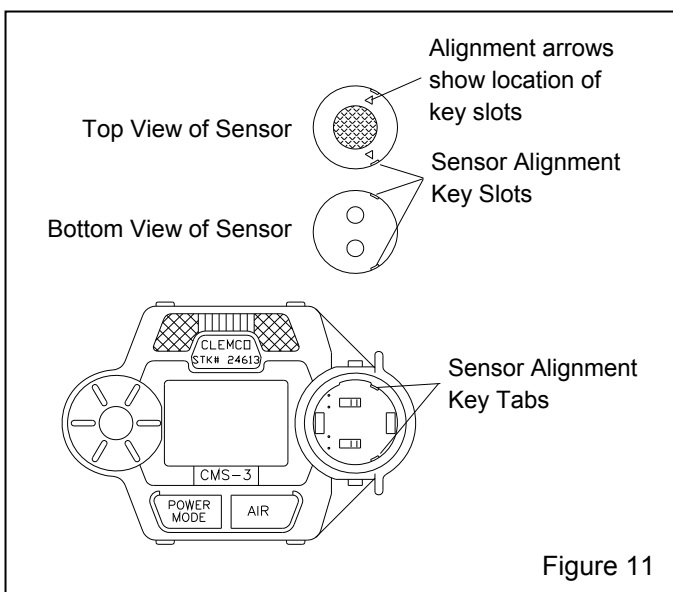

Figure 11
**5.2.4** Carefully remove the old sensor from the sensor socket. **NOTE:** The sensor is keyed and can only be inserted in the socket one way. Note the orientation of the old sensor, as shown in Figure 11 before removing it.
**5.2.5** Carefully insert the replacement sensor in the socket. Make sure the sensor face with the colored ring is facing up, and that the sensor key slots are properly aligned with the key tabs in the socket as shown in Figure 11, before inserting.